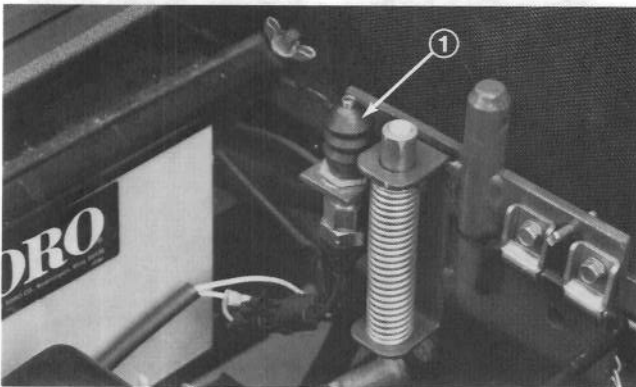

Figure 40
3. Remove boot from button end of seat switch (Fig. 40). Retain boot for reinstallation. Separate switch wire connectors.